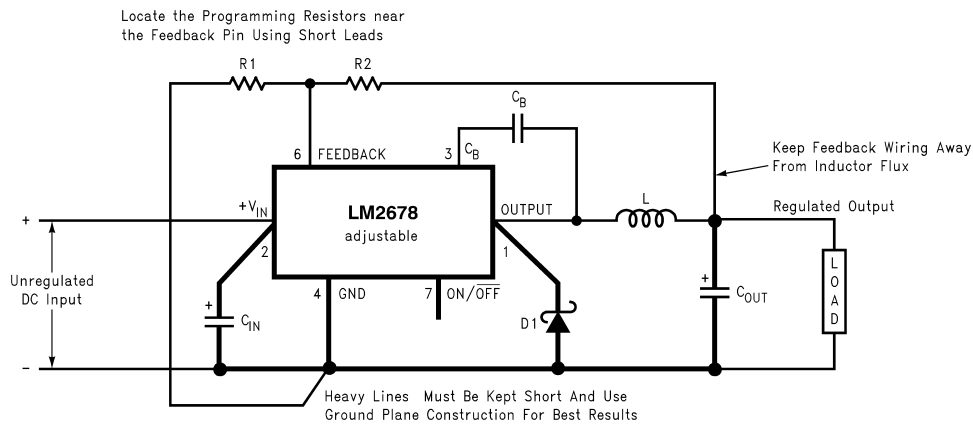

FIGURE 2. Basic circuit for adjustable output voltage applications
**Step 2:** Select an LM2678S-ADJ. To set the output voltage to 14.9V two resistors need to be chosen (R1 and R2 in Figure 2). For the adjustable device the output voltage is set by the following relationship: